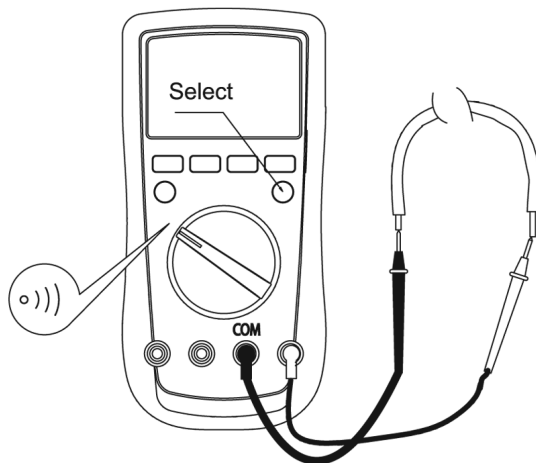

figure 5
D. Testing for Continuity (See figure 5)